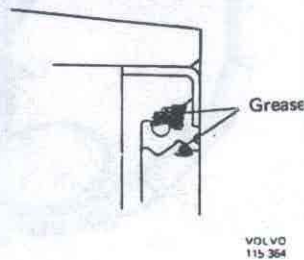
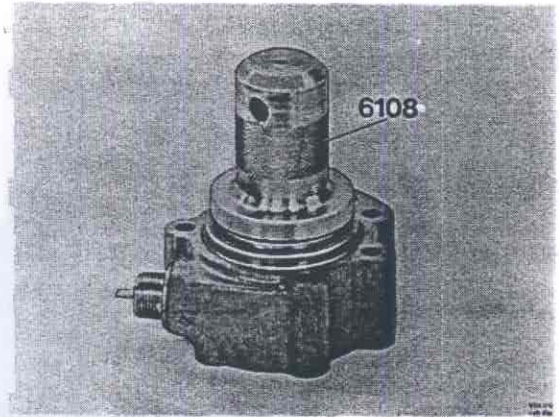

Fig. 43-204. Placing grease
Fig. 43-205. Driving in seal
17. Coat the sealing ring seat in the rear housing with sealing agent. Fill 1/4 of the space between the seal lips with grease, Fig. 43-204. Fit the seal on drift 6108 and drive the seal into the housing, Fig. 43-205. Remove the drift and grease the seal slide surfaces.